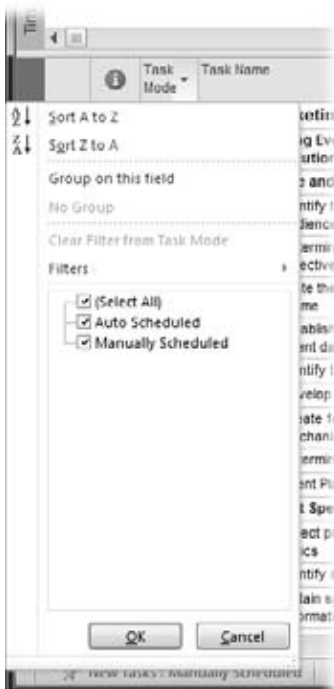

Figure 10-4:
2. To filter your task list to show only Manually Scheduled tasks, click the down arrow in the Task Mode field, as shown in Figure 10-4; turn off the Auto Scheduled checkbox; and then click OK.